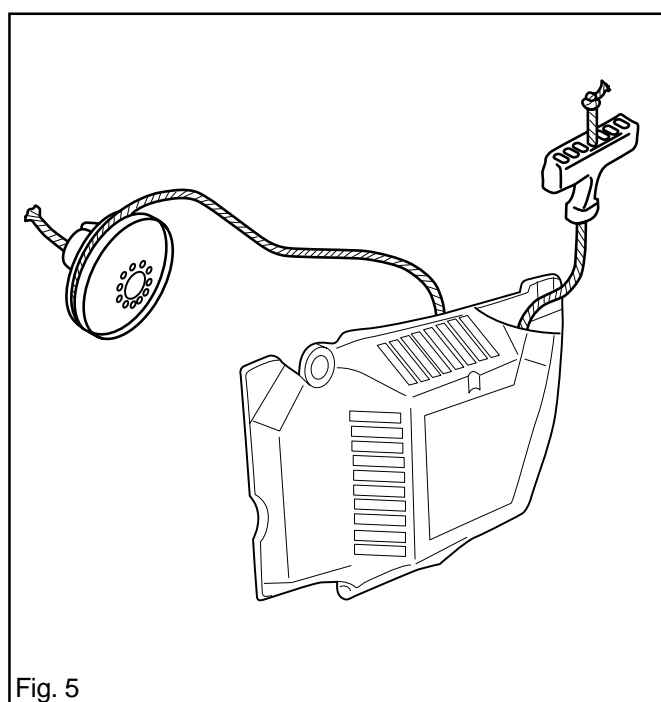
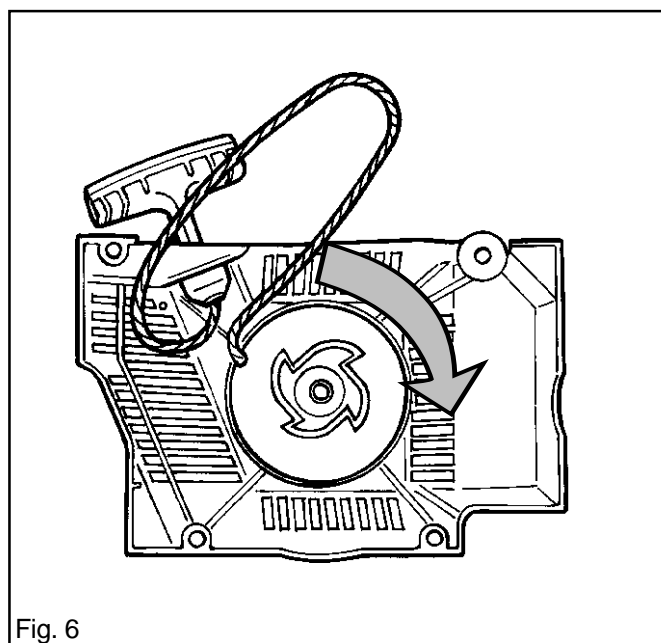

Fig. 5
Fig. 6
3. If a replacement cord is to be fitted, push the free end through the hole in the cord pulley. Take hold of the end with pointed pliers inside the pulley and pull the cord through. See fig. 5.
6. Pull the cord out through the hole in the housing and attach the handle with a double knot. See fig. 5.
7. Wind the cord onto the pulley and rotate the pulley clockwise until the cord is correctly tensioned. See below and fig. 6.
2. Fit the flywheel washer and nut. Tighten the nut to 35 Nm. See fig. 5.
3. Locate the ignition module (B) without tightening the bolts.
4. Rotate the flywheel so that the magnet (G) is beside the ignition module. See fig. 6.
5. Insert the feeler gauge (H) (0.3 mm) into the air gap between the ignition module and flywheel magnet. The clearance applies only to the two lower pegs on the ignition module. See figs. 6 and 7.
7. Fit the cable guide (D) and press in the HT lead into place. Remove the piston stop and connect the HT lead to the spark plug.